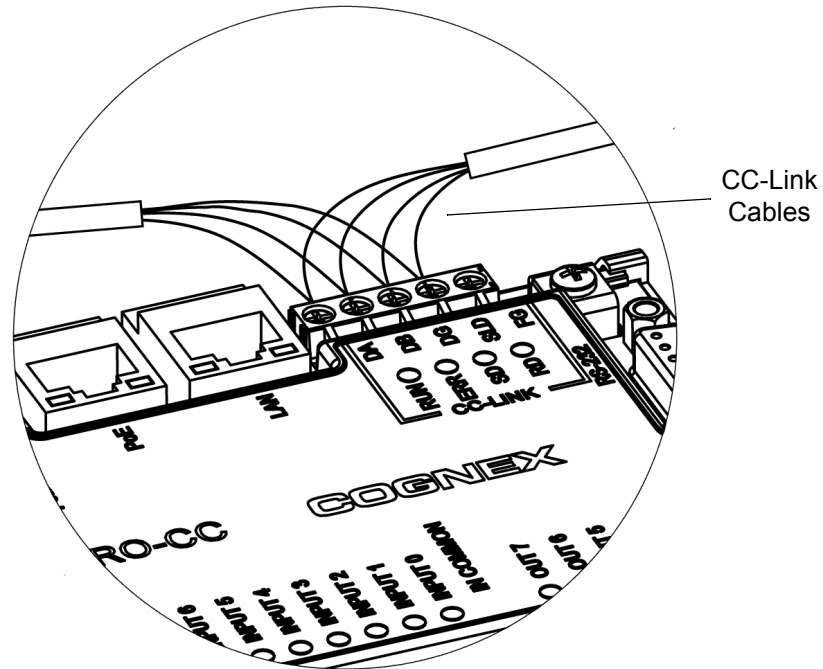

Figure 2-9: Connecting the CC-Link Cable
9. CIO-MICRO-CC only: If you want to connect the supported In-Sight vision system to a CC-Link device, connect one end of your CC-Link cables to the CIO-MICRO-CC CC-Link terminals as shown in Figure 2-9 and the other end of the cables to the other CC-Link devices. The CC-Link network is daisy-chained and may require a terminal resistor. Make certain that your connections are correct. For more information, see the *CC-Link Cable Wiring Manual* at [http://www.cc-link.org/eng/t\\_html/index.html](http://www.cc-link.org/eng/t_html/index.html). An example of a CC-Link network is depicted on page 49.
11. Connect the I/O module to an Ethernet network by plugging one end of an Ethernet cable to the I/O module's LAN RJ-45 port, as shown in Figure 2-9, and the other end to the network.